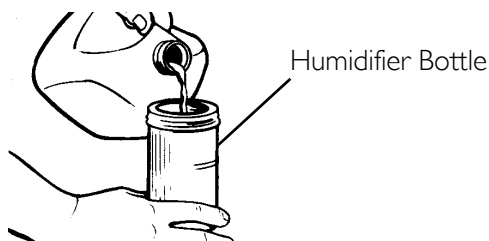
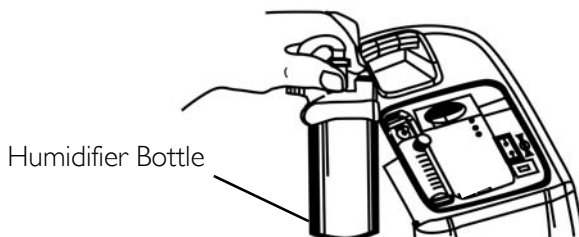
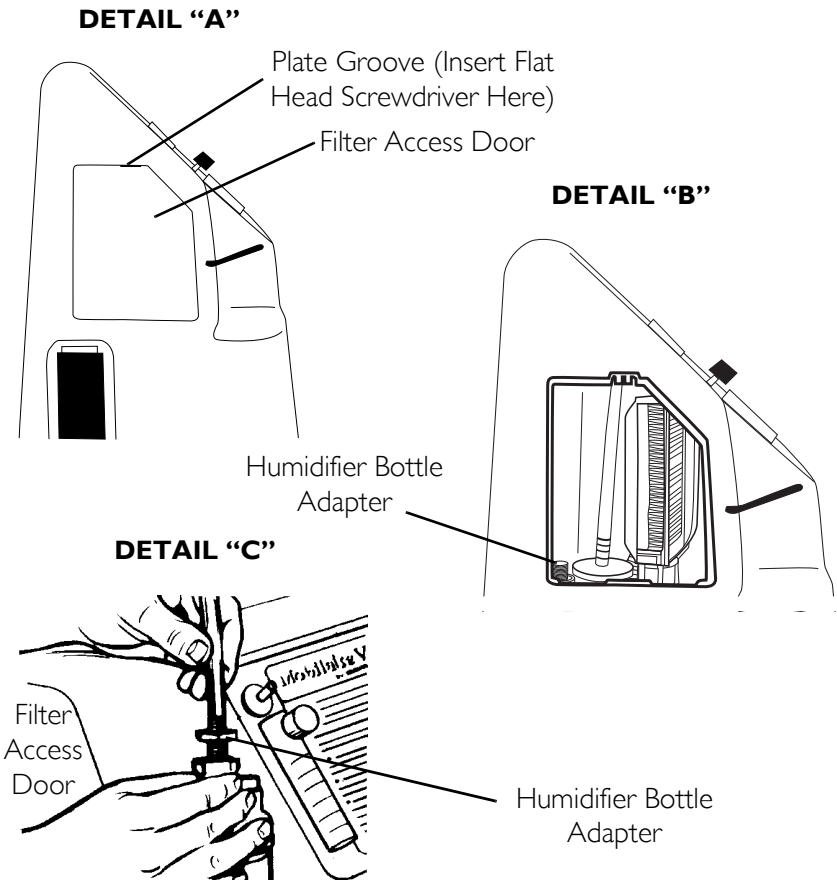
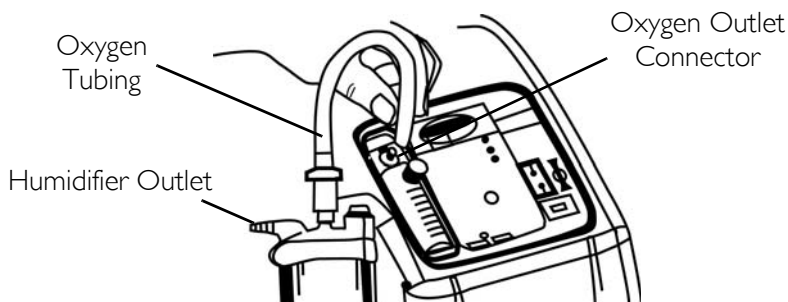

FIGURE 5.1 Filling the Humidifier
FIGURE 5.2 Humidifier Compartment
FIGURE 5.3 Attaching the Humidifier Bottle Adapter
FIGURE 5.4 Attaching the Oxygen Tubing
NOTE: For this procedure, refer to FIGURE 5.1, FIGURE 5.2, FIGURE 5.3 on page 22 and FIGURE 5.4 on page 23.
3. Remove the filter access door located on the side of the concentrator. Insert a flathead screwdriver in the plate groove on the top edge of the filter access door and gently pry the filter access door open. Refer to Detail "A" in FIGURE 5.3.
4. The humidifier adapter is next to the inlet filter. Pull up and remove the humidifier bottle adapter. Refer to Detail "B" in FIGURE 5.3.
5. Attach it to the humidifier by turning the wing nut on the humidifier bottle counterclockwise until it is securely fastened. Refer to Detail "C" in FIGURE 5.3.